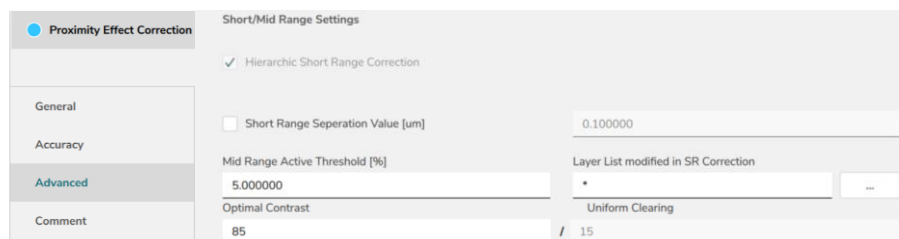

Figure 3. Advanced PEC settings showing the *Optimal Contrast/Uniform Clearing* option.
**BEAMER** simplifies the second alternative by providing the *Optimal Contrast/Uniform Clearing* option within the PEC Advanced settings (see Fig. 3).